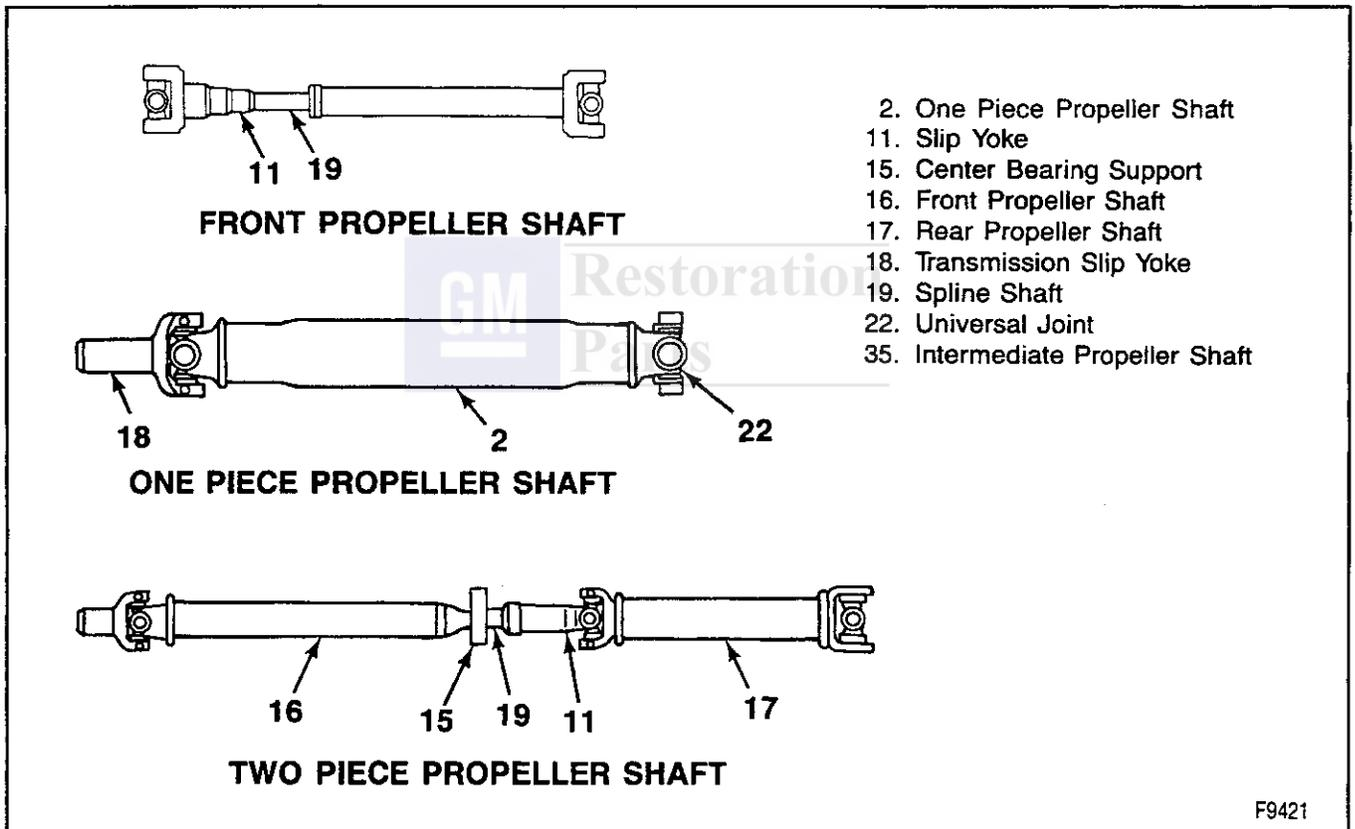
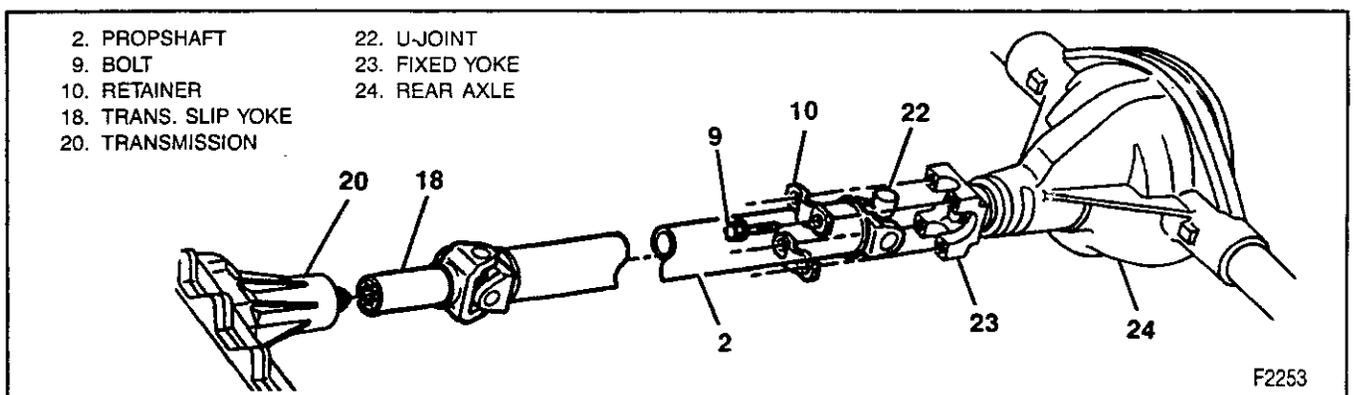
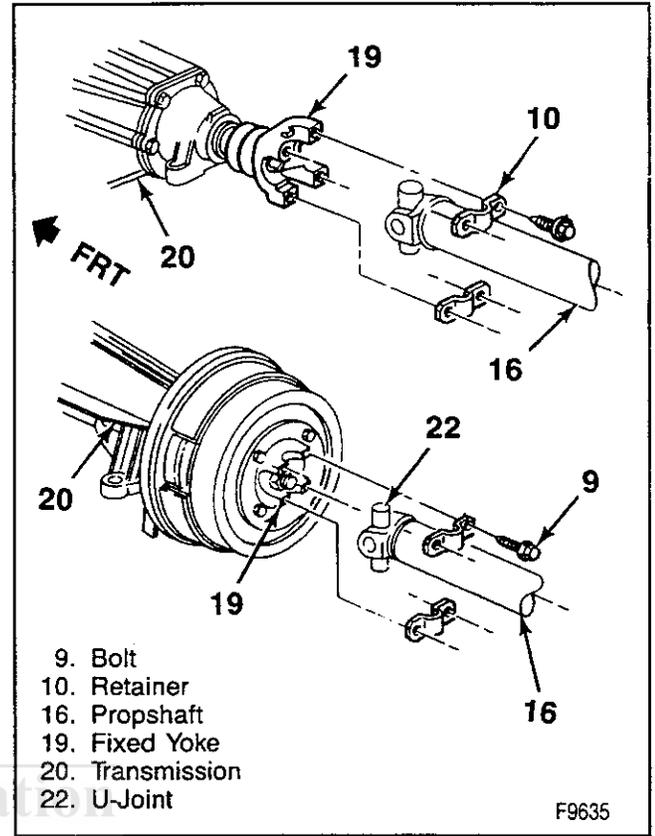

Figure 1—Propeller Shafts
Figure 2—Transmission Slip Yoke
Figure 3—Fixed Yoke Companion Flange
Torque is transmitted from the transmission to the rear axle through one or more propeller shafts. The number of propeller shafts vary with the vehicle wheel base and combination of transmission, transfer case, (front drive), and rear axle equipment (figure 1). Propeller shafts have universal joints at each end to accommodate angle variations between the transmission and rear axle, and rear axle position caused by suspension motion. All propeller shafts are the balanced tubular type. The driveline is connected to the transmission with a splined slip joint (normal for a one-piece propeller shaft) (figure 2) or a fixed yoke, normal for a two-piece and three-piece propeller shafts (figure 3). If two or
The propeller shaft is designed and built with the yoke lugs (ears) in line with each other. This design produces the smoothest running shaft possible, and is known as "in phase" (figures 1 and 4).
**Remove or Disconnect (Figure 1)**